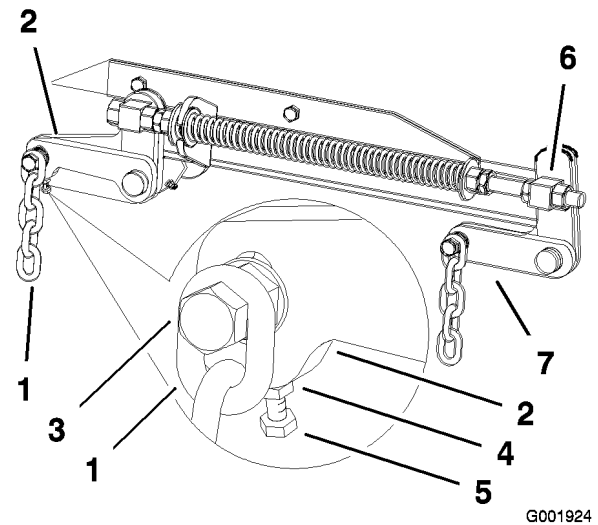

Figure 60
7. If the measurements at positions **B** or **C** are not correct, loosen the bolt attaching the rear chain to the rear support arm (Figure 60).
8. Loosen the jam nut under the rear support arm and adjust the adjustment bolt to get a measurement of 3-1/8 to 3-1/4 inches (Figure 60).
7. Loosen the front swivel jam nuts, at the front of the right and left swivels, approximately a 1/2 inch (13 mm) (Figure 60).
8. Adjust the lift nuts on both the left and the right side of the machine to achieve 1/4 to 3/8 inch (6 to 10 mm) lower in front at **A** than in the rear at **B** (Figure 60).